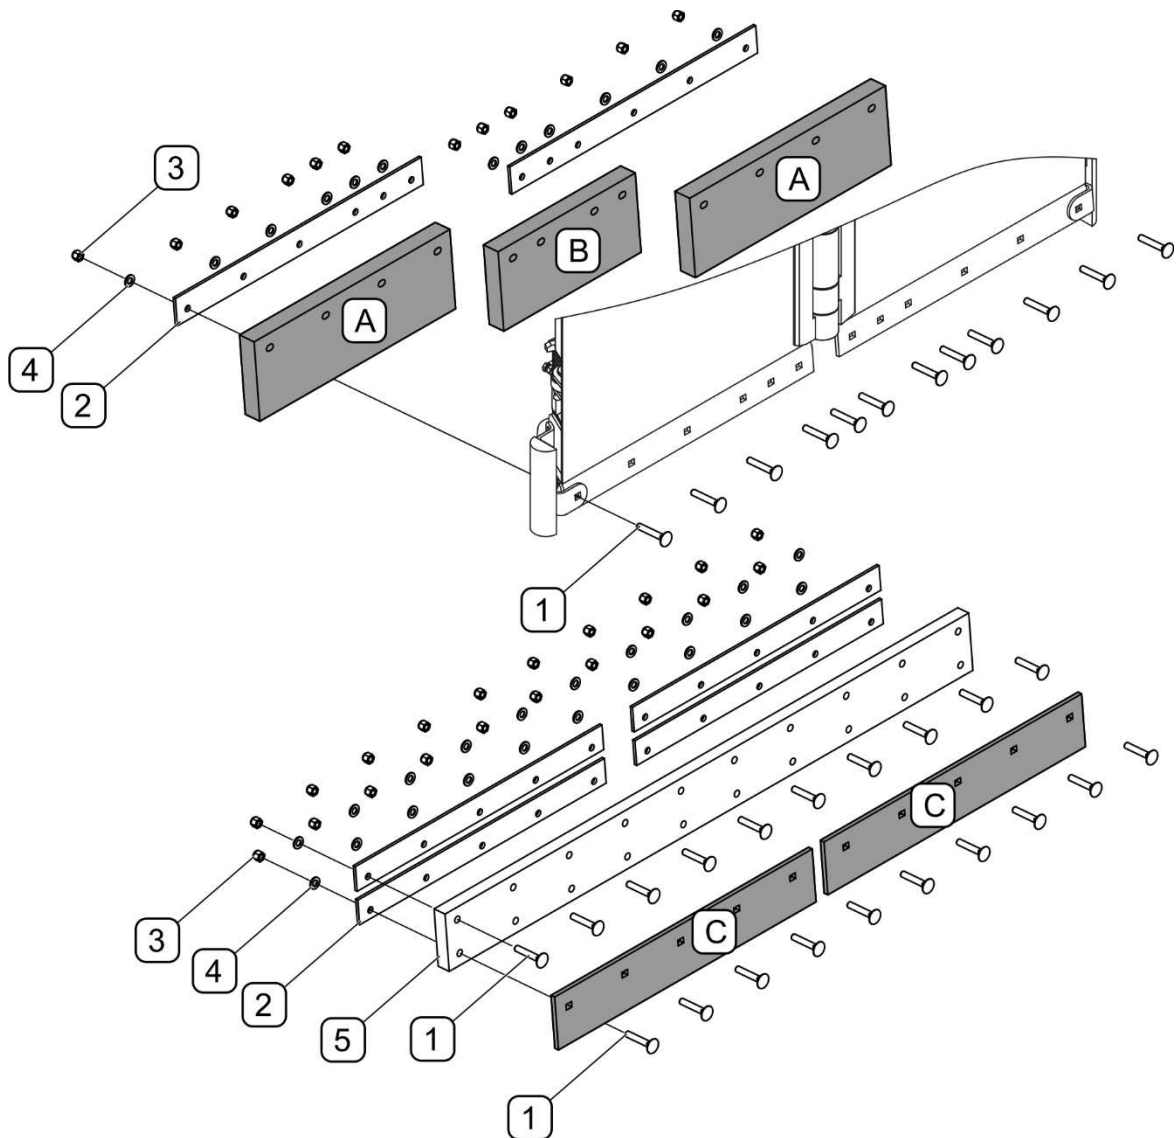

FIGURE 5.1 Replacement of collecting strip
Rubber collecting strip consists of three segments (A, B) (FIGURE 5.1). To dismantle the segments of the strip, undo nuts (3), take out fixing bolts (1) and washers (4) and remove clamping strips (2). Replace the strip segments, reassemble in reverse order.